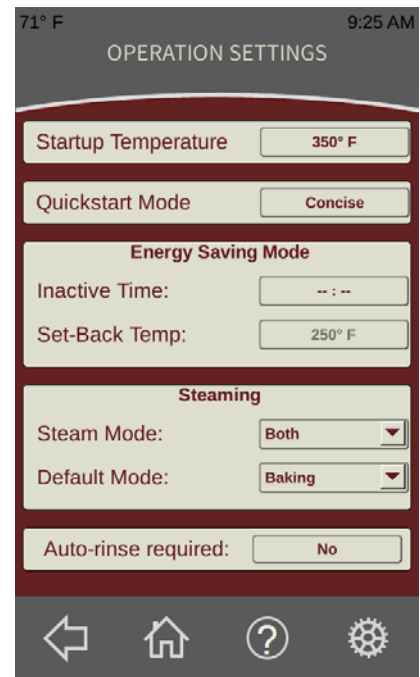

Fig. 63
- Startup Temperature (Fig. 63) allows the adjustment of the temperature the oven will preheat to when it is first turned on.
- Quick Start Mode (Fig. 63) can be changed between Full and Concise. Full allows the adjustment of steaming, venting and fan delay in Quick Start Mode. Concise sets the Quick Start Mode to allow adjustments of only time and temperature.
- Energy Saving Mode (Fig. 63) can save energy when used. The oven can automatically lower the temperature when left inactive for a period. The Inactive Time and Set-Back Temperature can be adjusted.
- Steaming (Fig. 63) allows the steam icons and mode to be adjusted. When Steam Mode is set to Both, Baking Steam and Food Service Steam icons are both displayed on the Recipe Build screen. When Both modes are selected, the Default mode changes what icon is displayed on the large portion of the steam icon.
- The Auto-rinse required (Fig. 63) allows the canceling of an Auto-rinse if an error occurs during a wash cycle. The button will show Yes if an Auto-rinse is needed and No if an Auto-rinse is not needed.